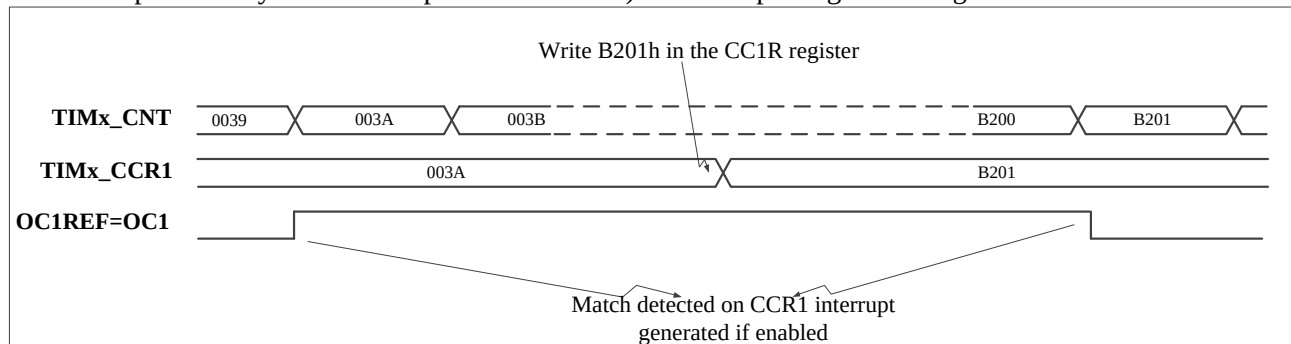

Figure 114 Output compare mode, toggle on OC1
- The TIMx_CCRx register can be updated at any time by software to control the output waveform, provided that the preload register is not enabled (OCxPE=0, else TIMx_CCRx shadow register is updated only at the next update event UEV). An example is given in Figure 114.